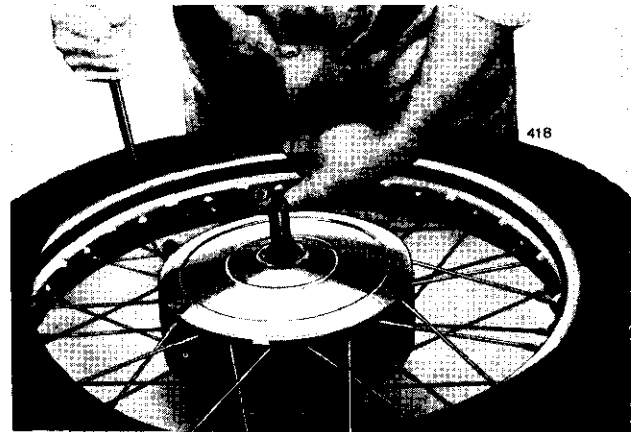

Fig. F23. Refitting the second bead with the security bolt in position
- (4) Partly inflate the inner tube and fit it into the tyre.
- (5) Fit the second bead but keep the security bolt pressed well into the tyre, as shown in Fig. F23, and ensure that the inner tube does not become trapped at the edges.
- (6) Fit the valve stem nut and inflate the tyre.
- (7) Bounce the wheel several times at the point where the security bolt is fitted and then tighten the security bolt nut.